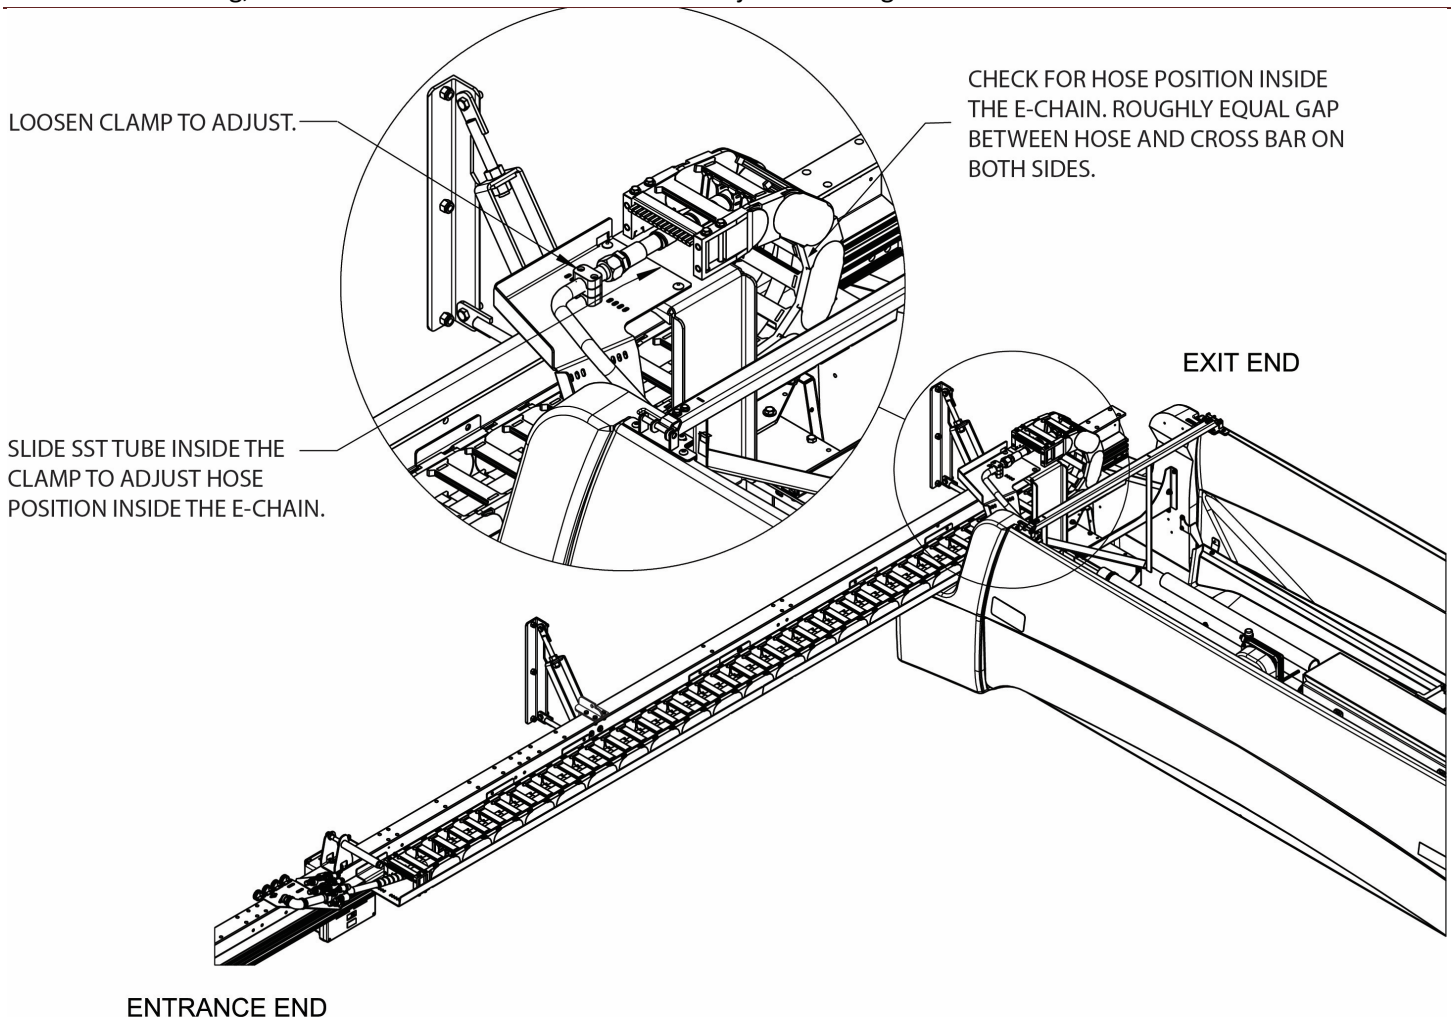

Figure 78 – High Pressure Hose Adjustment in Main E-chain
- Adjust the hose position at the bridge end by loosening the tube clamp and pushing or pulling the stainless tube inside the clamp as shown in Figure 78. This will change the hose position inside the e-chain. If the straight section of the stainless tube is not long enough to provide enough adjustment, then adjust the position by sliding the fixed end bulkhead in its slotted mounting holes, shown in Figure 54.